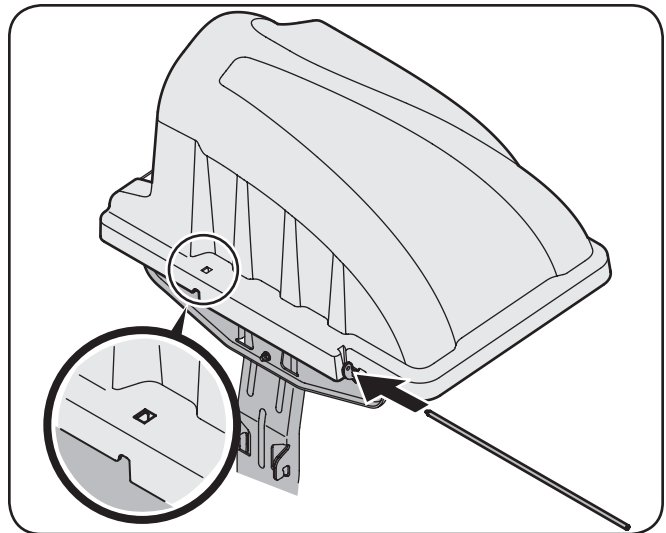
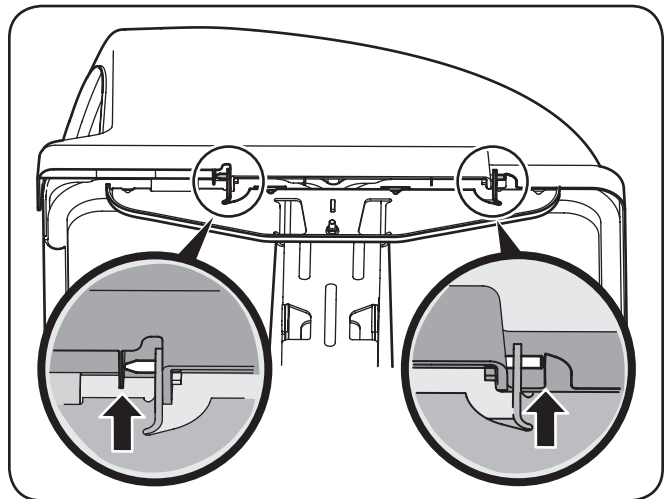

Figure 5-10
Figure 5-11
- Slide the hinge pin into the hole located on the mounting tab, as in Figure 5-10. Use the cut-out window (See inset in Figure 5-10) to line up the hinge pin on the other side and push pin all the way in until it reaches the end-stop. At this point the pin clips into place and is secured by a tab in the bagger cover. See Figure 5-11.